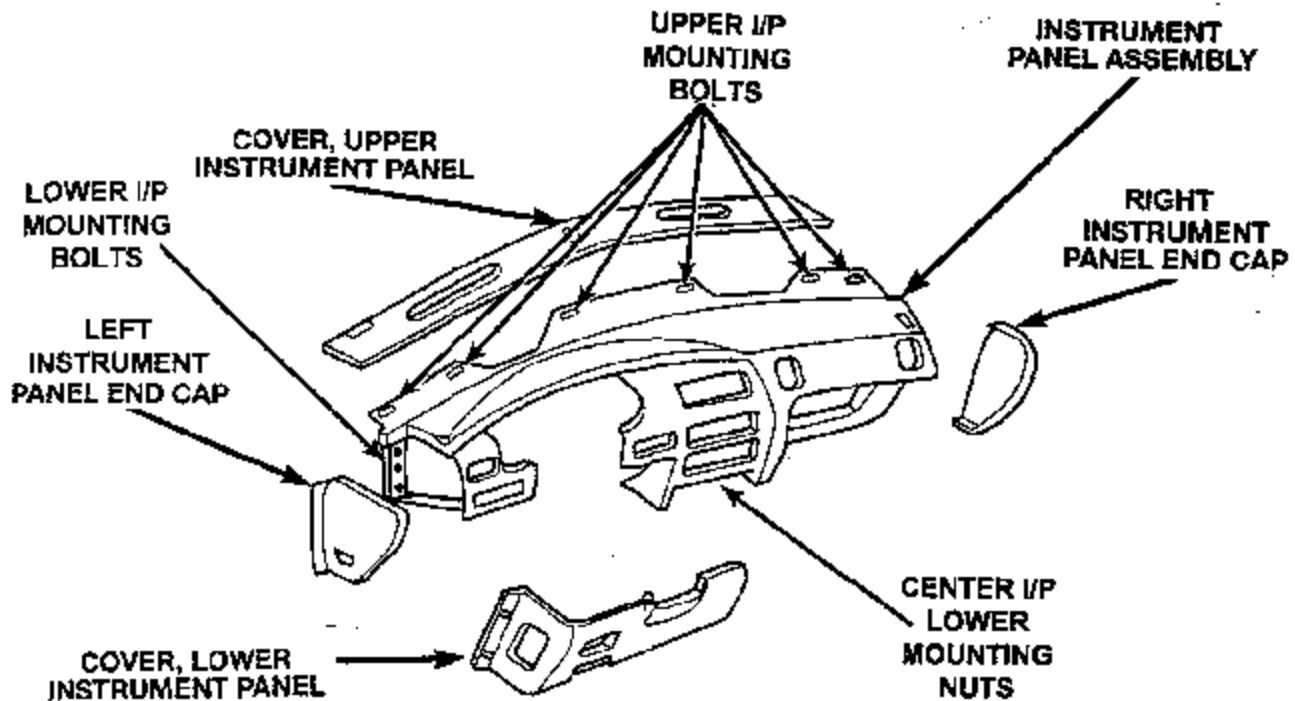
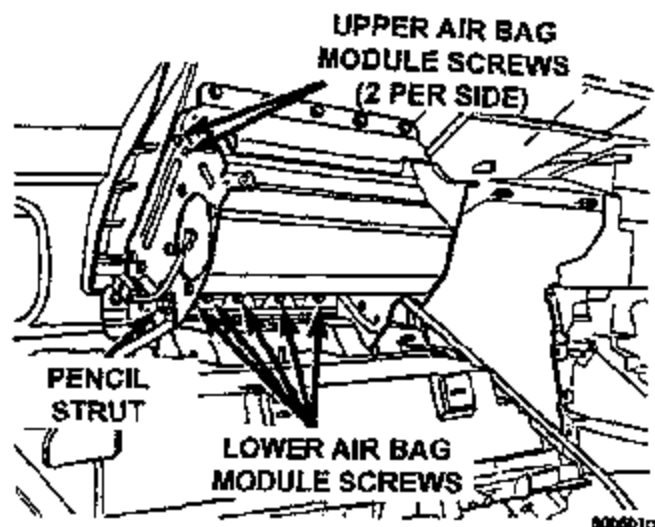

Figure 1
Figure 2
2. Remove the four (4) screws that attach the glove box door to the instrument panel (I/P) and remove the glove box door.
3. Remove the right I/P end cap (Figure 1).
7. Remove the upper I/P cover (Figure 1).
8. Remove the left I/P end cap (Figure 1).
9. Remove the left lower I/P cover (Figure 1). Disconnect the hood release cable and trunk release electrical connector and set the cover aside.
15. Remove the two (2) center I/P lower attaching nuts (Figure 1).
20. Disconnect the two (2) center I/P ground eyelets.
22. Remove the four (4) steering column nuts and lower the steering column.
23. Remove the three (3) lower left I/P mounting bolts (Figure 1).
24. Remove the three (3) upper left I/P mounting bolts (Figure 1).
28. Remove the three (3) lower right I/P mounting bolts (Figure 1).
29. Remove the three (3) upper right I/P mounting bolts (Figure 1).
31. Remove the four (4) right demister duct screws and remove the demister duct.
32. Remove the two (2) right air distribution duct screws and remove the air distribution duct.
33. Remove the right and left I/P the passenger air bag module pencil struts (Figure 2).
36. Remove the four (4) upper air bag module screws (2 per side) (Figure 2).
37. Remove the five (5) lower air bag module screws (Figure 2).
42. Install the five (5) lower air bag module screws (Figure 2). Tighten the screws to 20 in-lbs (2.3 N•m).
43. Install the four (4) upper air bag module screws (2 per side) (Figure 2). Tighten the screws to 75 in-lbs (8.5 N•m).
46. Install the right and left I/P the passenger air bag module pencil struts (Figure 2). Tighten the nuts to 45 in-lbs (5.1 N•m).
47. Install the right air distribution duct and install the two (2) air distribution duct screws. Tighten the screws to 20 in-lbs (2.3 N•m).
48. Install the right demister duct and install the four (4) demister duct screws. Tighten the screws to 20 in-lbs (2.3 N•m).
50. Install the three (3) upper right I/P mounting bolts (Figure 1). Tighten the bolts to 75 in-lbs (8.5 N•m).
51. Install the three (3) lower right I/P mounting bolts (Figure 1). Tighten the bolts to 75 in-lbs (8.5 N•m).
55. Install the three (3) upper left I/P mounting bolts (Figure 1). Tighten the bolts to 75 in-lbs (8.5 N•m).
56. Install the three (3) lower left I/P mounting bolts (Figure 1). Tighten the bolts to 75 in-lbs (8.5 N•m).
57. Raise the steering column and install the four (4) steering column nuts. Tighten the nuts to 105 in-lbs (12 N·m).
59. Connect the two (2) center I/P ground eyelets.
64. Install the two (2) center I/P lower attaching nuts (Figure 1). Tighten the nuts to 75 in-lbs (8.5 N·m).
70. Connect the hood release cable and trunk release electrical connector and install the left lower I/P cover (Figure 1).